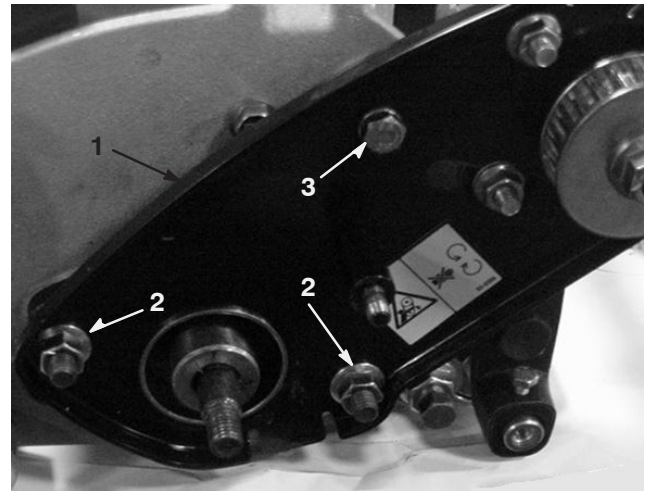

Figure 19
31. Reinstall the reel drive plate to the side plate with the (2) nuts and bolt previously removed (Fig. 19).